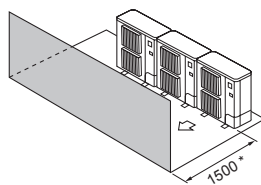

Fig. 2-15
- ③ Solo ostacoli anteriori (Fig. 2-15)